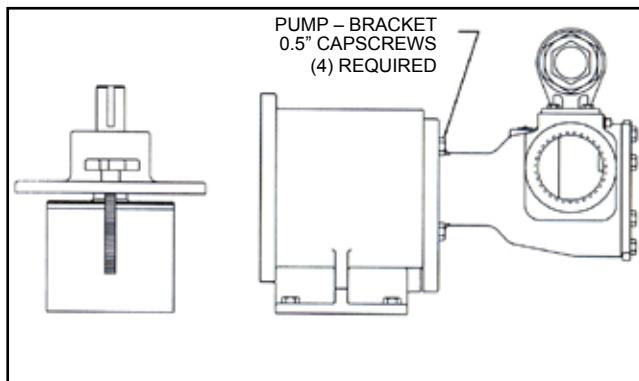

FIGURE 38
3. Support the pump from overhead and secure the coupling bracket to avoid tipping when the pump is attached. Using the canister as a guide, slide the pump and magnet assembly up to the coupling bracket through the smaller opening. Secure with the four 0.5" capscrews. **See Figure 38.**